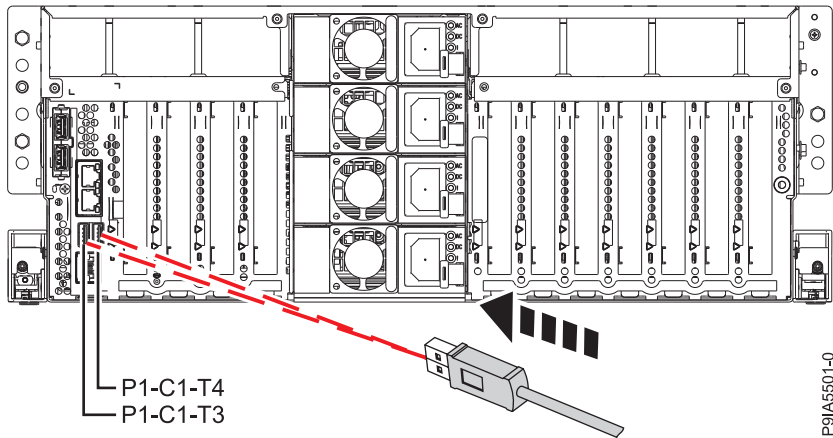

Figure 6. Replacing a USB cable
2. Connect the USB cable indicated in the **FRU Location** field in the upper left of this page. See Figure 6.